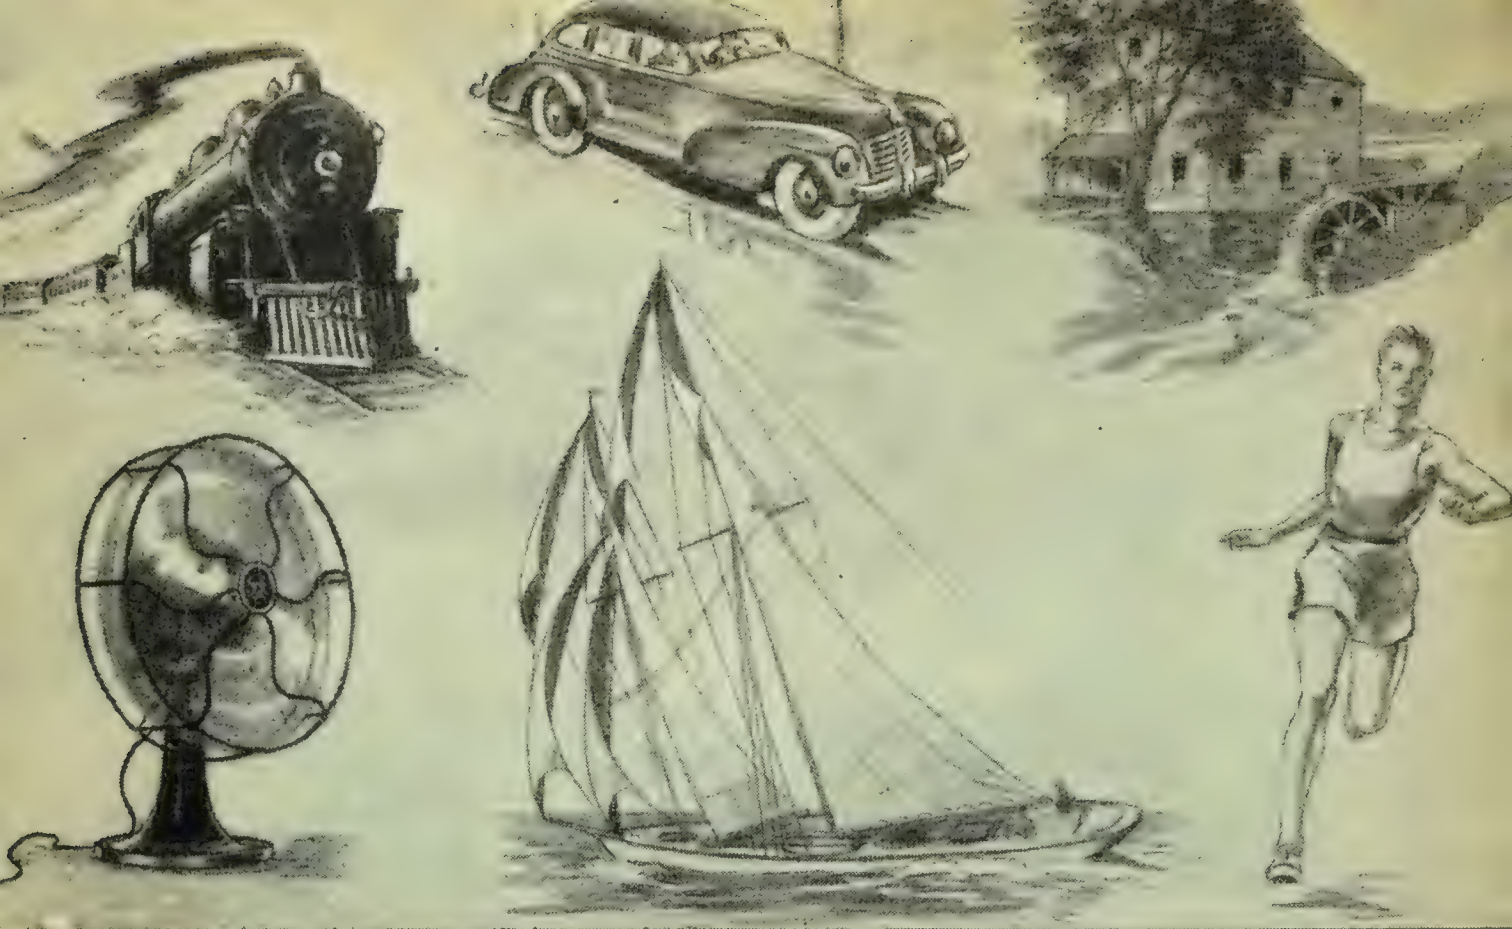

FIG. 104. Nothing moves without the use of some kind of energy. From what does the energy come that moves each of the objects in this picture?
6. What kind of energy is moving each object in Figure 104?